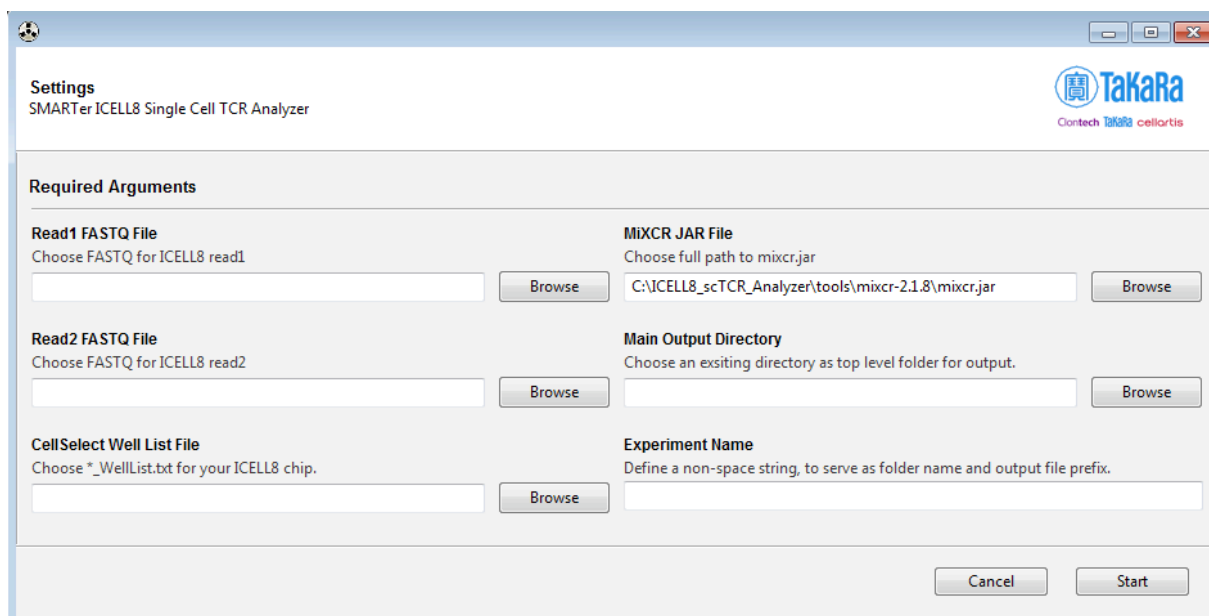

Figure 6. Initial *Settings* GUI page of the ICELL8 scTCR Analyzer.
2. In the *Settings* page (Figure 6), use the [Browse] button of each field to configure the following information: